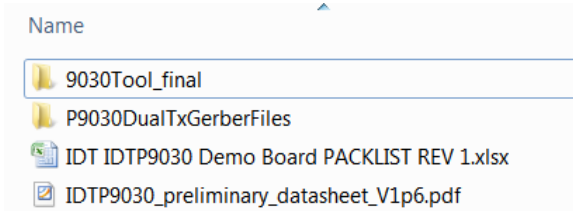

Figure 19. File folder structure on the CDROM.
4. Next, install the Wireless Power Demo Windows GUI software by executing the Setup.exe file in the folder "9036Tool_final" (Figure 19).
To install the GUI, open the IDTP9036A-DEMO CD and run the file: setup-1.0.0.11.exe within the 9036Tool_final folder. I.e. the path is 9036Tool_final/setup-1.0.0.11.exe shown in figure 19 or 22. Follow the Setup Wizard instruction shown in Figure 23. This will install the GUI and driver automatically. After the installation process is complete, you may connect the evaluation board to the computer with the USB cable, via the Dongle, and use the software tool. *At this point, a little USB icon should appear at the lower right of the desktop screen. If it does not, then the machine being used should be rebooted. Now connect the JM60 dongle board into the evaluation board and then connect the 12V supply. Now plug the USB cable into the dongle board, and plug the USB cable into the PC.*